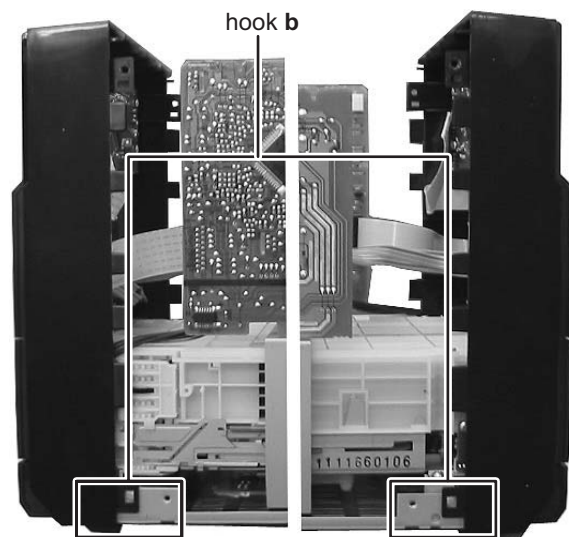

Fig.6
- (7) Remove the hook **b** and then removing the front panel. (See Fig.6)